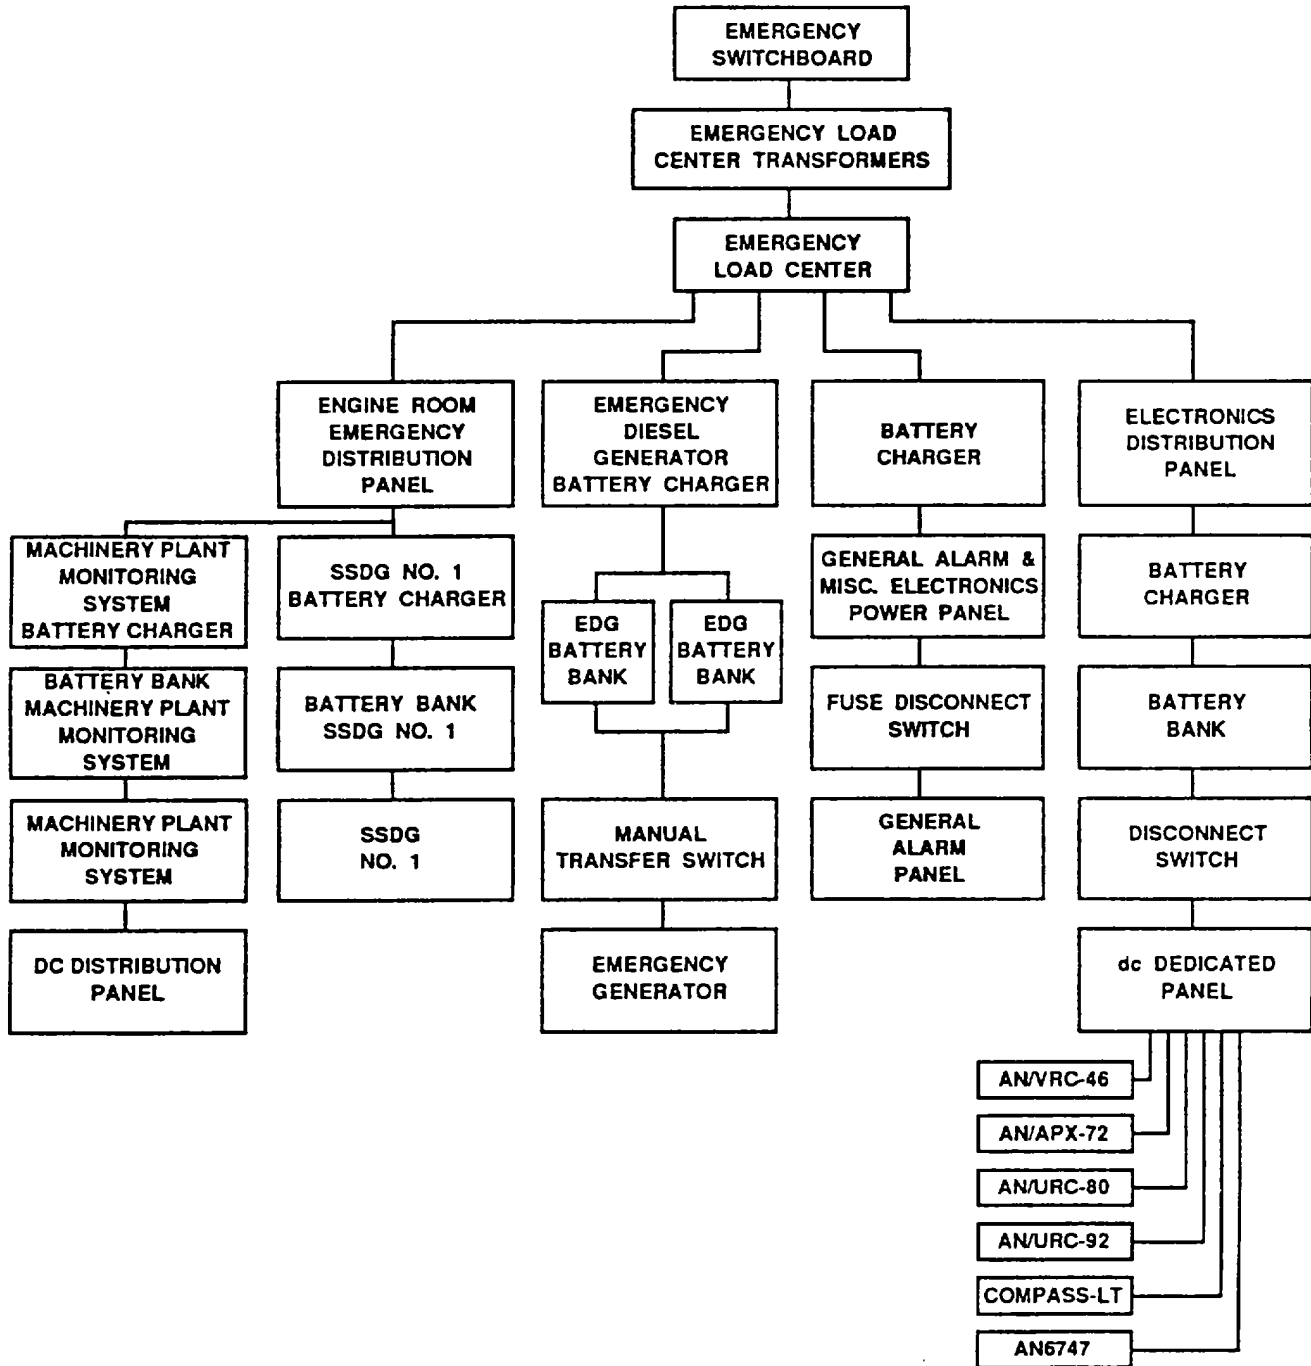

Figure 1-10. Battery Power Distribution.
c. Battery Power Distribution (Figure 1-10). Five Independent 24 Vdc battery banks are provided. One set of batteries provides starting power for the emergency diesel generator engine. Another set provides starting power for the starboard SSDG (No. 1). The third set of batteries provides power for the general alarm system. The fourth set of batteries provides power to the radio room dc panel, which supplies selected Communication, Electronic, and Navigation (CEN) equipment. The fifth set of batteries provides power for the machinery plant monitoring system, and engine control. Battery chargers for each battery bank are provided. The chargers supplied from the emergency load center distribution panel (120 Vac) (general alarm system and emergency generator), engine room emergency distribution panel No. 1 (SSDG No. 1 and machinery plant monitoring system), and radio room electronics distribution panel (CEN equipment).